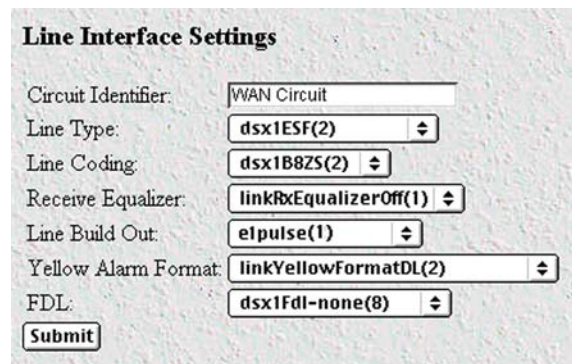

Figure 29. WAN Circuit Configuration window, Line Interface Settings section
2. Link: 1 corresponds to Line 1 on the RAS. This is the primary link for dial-in callers. Under Link 1, Click on Configuration then Modify. The Line Interface Settings section of the WAN Circuit Configuration window appears (see figure 29).
1. Click on the Line Type pop-up menu (see figure 29 on page 42) and choose from the following options:
- For an E1/PRI line your options will be either dsx1E1(4) or dsx1E1-CRC(5)
- For an E1/R2 line your options will be either dsx1E1-MF(6) or dsx1E1-CRC-MF(7)
2. Click on the Line Coding pop-up menu (see figure 29 on page 42) and choose either dsx1AMI(5) or dsxHDB3(3). Most installations will use HDB3.
3. Click on the Line Build Out pop-up menu (see figure 29 on page 42) and select e1pulse(1).
4. Click on Yellow Alarm Format pop-up menu (see figure 29 on page 42) and choose from the following options:
2. Link: 1 corresponds to Line 1 on the RAS. This is the primary link for dial-in callers. Under Link 1, Click on Configuration then Modify. The Line Interface Settings section of the WAN Circuit Configuration window appears (see figure 29 on page 42).
2. Click on the Line Coding pop-up menu (see figure 29 on page 42). The most common options are: dsx1B8ZS and dsx1AMI. For ISDN PRI service, set the line coding to dsx1B8ZS.
3. Click on the Line Build Out pop-up menu (see figure 29 on page 42) and select t1pulse0dB(1).